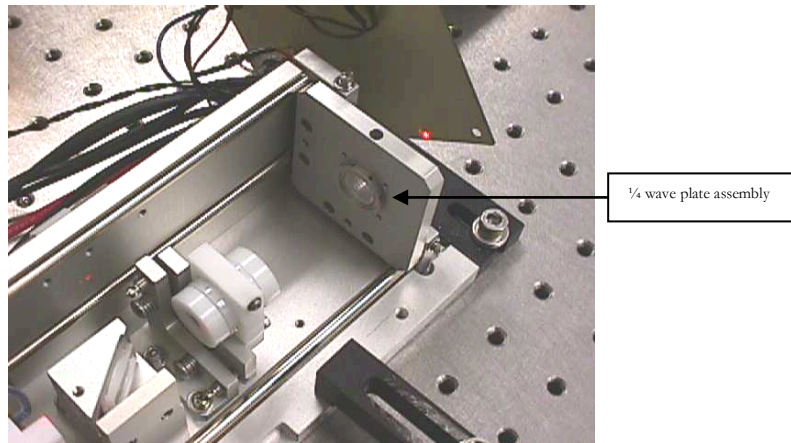

FIGURE 15
- **Screw** one (1) #4-40 x 5/32 nylon tip setscrew (2825-4557) to lock wave plate assembly in place.
- **See** Figure 15.